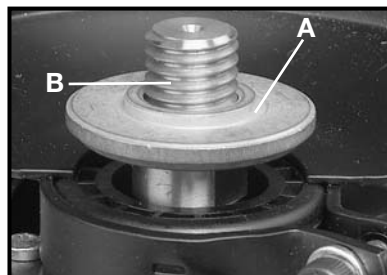
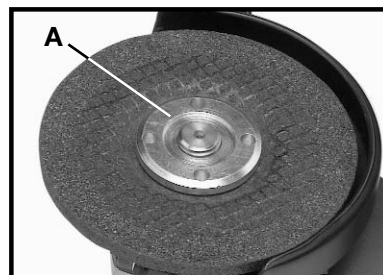

Fig. 6
Fig. 7
4. Position inner flange (A) Fig. 6 onto spindle (B), with round hub facing outward, away from machine. Rotate flange until it drops into place on the spindle.
6. Position outer flange (A) Fig.7 on spindle (B) Fig. 6 with flat side against wheel, and thread into place hand tight.